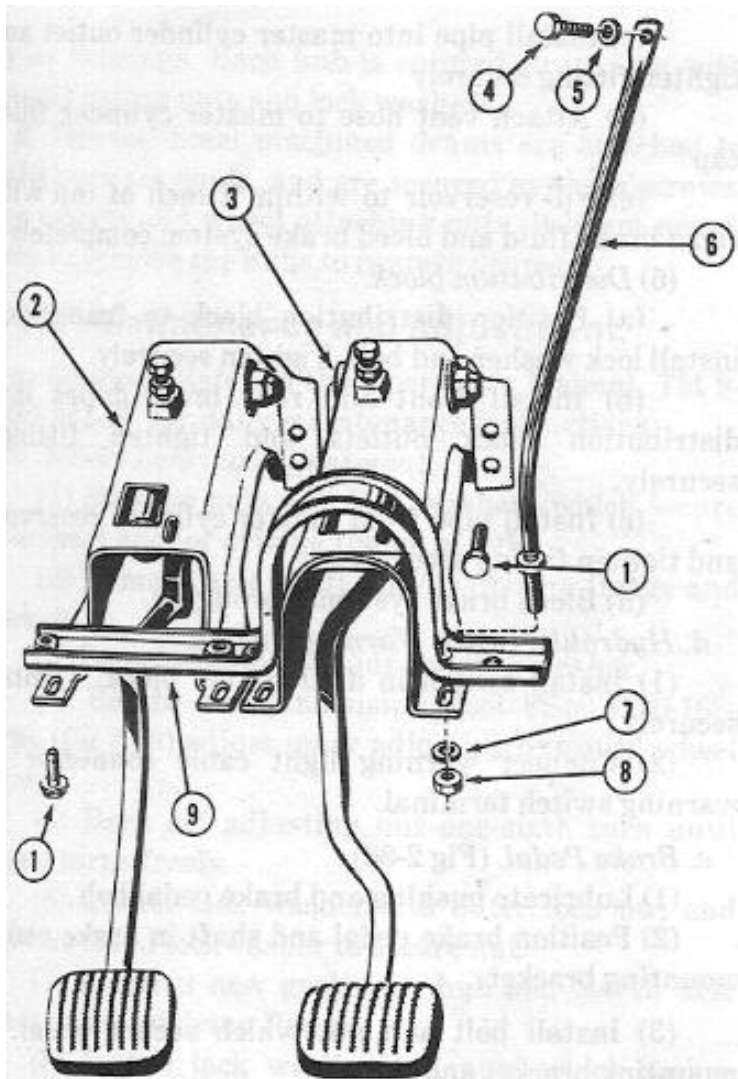

Figure 2-87. Brake and clutch pedal support bracket
f Brake Pedal Support Bracket. (Fig 2-87)
- (1) Lubricate bushing and brake pedal bolt.
- (2) Position brake pedal and shaft in brake pedal mounting bracket.
- (3) Install bolt and nut which secure pedal to mounting bracket and tighten.
- (4) Connect push rod to brake pedal and install flat washer on pin.
- (5) Connect brake pedal return spring.
- f Brake Pedal Support Bracket. (Fig 2-87)
- (1) Position brake pedal support bracket to firewall and install bolts and nuts. Tighten securely.
- (2) Install support bracket-to-instrument panel bolts and tighten.
- (3) Install brace rod into support bracket hole and secure with nut and lock washer.
- (4) Connect brake pedal return spring.